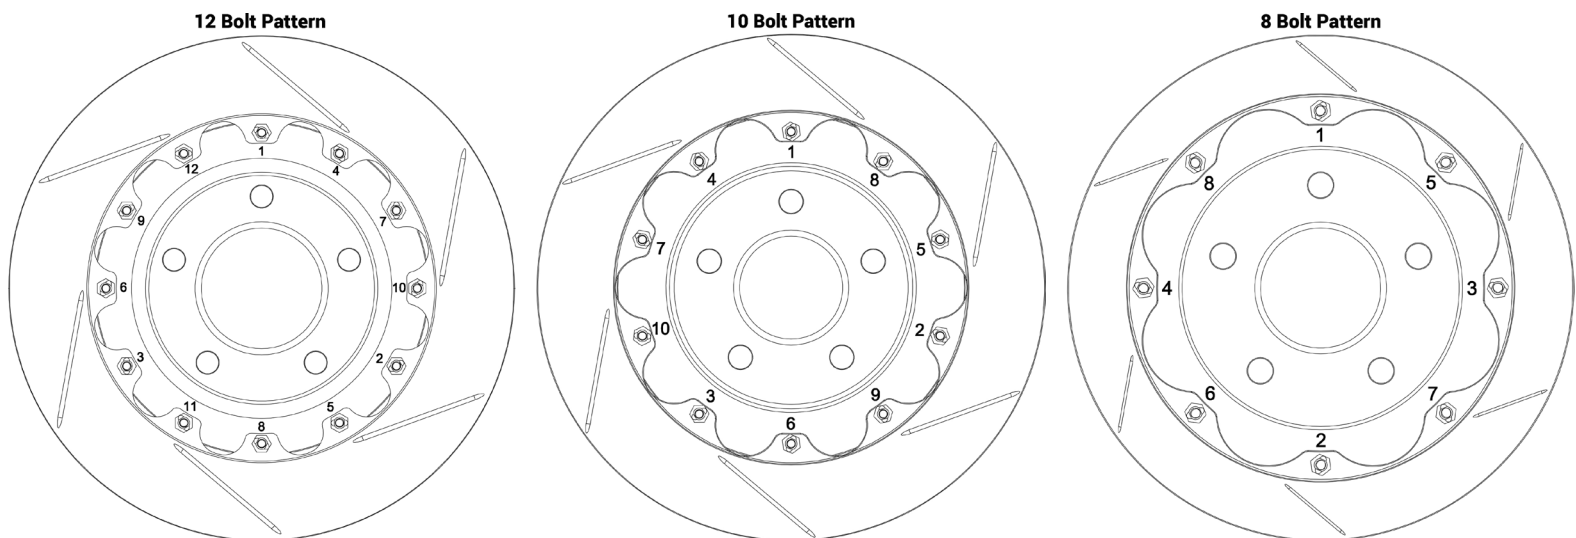

Fig. 1
Step 7: Loosely assemble the locknuts (hand-tight). Inspect prior to tightening to ensure all components are installed properly. Tighten and torque all locknuts in the sequence pattern shown below (Fig. 1) to **10.5 lbf-ft / 14 Nm**